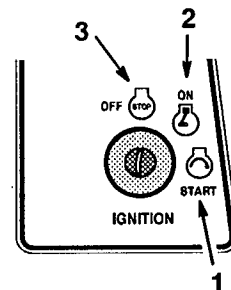

Figure 10
6. Turn the ignition key clockwise and hold it in the “START” position (Fig. 10). When the engine starts, release the key.
2. Turn the ignition key to “OFF” (Fig. 10).